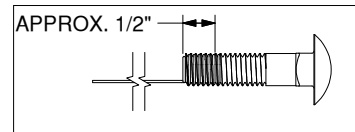
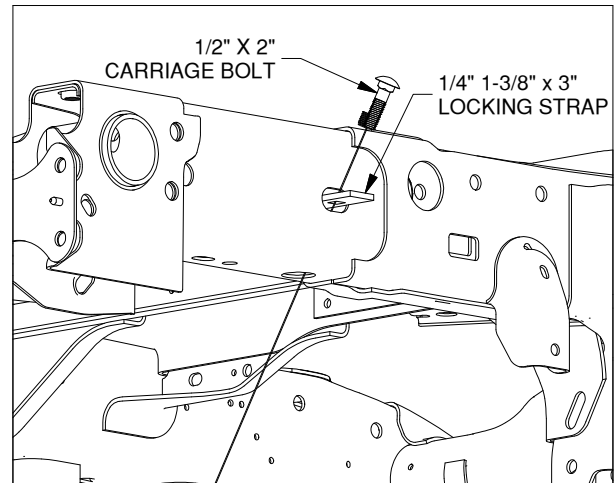

Figure B2: Fish wire diagram.
Figure B3: View looking at passenger side of frame.
2. **Install the forward mounting location.** Locate the fish wires, 1/4" X 1-3/8" X 3" Locking Straps and two 1/2" X 2" carriage bolts. Thread a Carriage Bolt onto the coil end of the fish wire, see Figure B2. Next, position the locking strap into the hole, half-in/half-out, in the side of the frame as shown in Figure B3. Then pass the straight end of the fish wire through the locking strap and the hole in the side of the frame. Angle the fish wire so that the wire then passes through the forward mounting location in the bottom of the truck frame, see Figure B3. Continue to pass the fish wire through the frame until both the locking strap and the carriage bolt are inside the frame. Pull the threads of the carriage bolt through the locking strap and out of the frame. Make sure that the square shoulder of the carriage bolt is fully engaged in the square hole of the locking strap. Uncoil the fish wire and repeat this process on the other side.